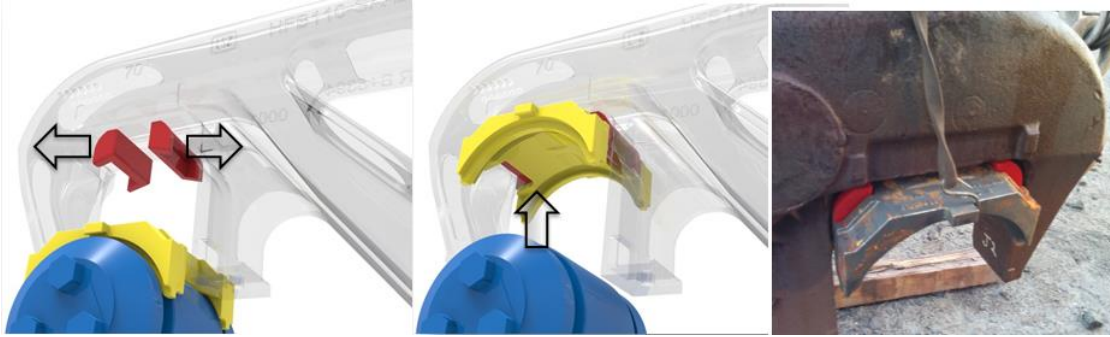

Figure 12: Sequence of Installing Q4 VPS System (Bearing Adapter and Guide)
2. Lift the bearing adapter between the two guides all the way up in the pedestal pocket until the top of bearing adapter contacts the pedestal roof (Figure 12).
The bearing adapters and guides may be removed by separating (lifting) the end of the side frame from the roller bearing. Be aware that the bearing adapter may cling to the side frame, and can subsequently drop unexpectedly. Use a bungee cord or equivalent to keep the bearing adapter in the pedestal pocket (Figure 12) before lifting the side frame. Remove the bearing adapter and then both guides.